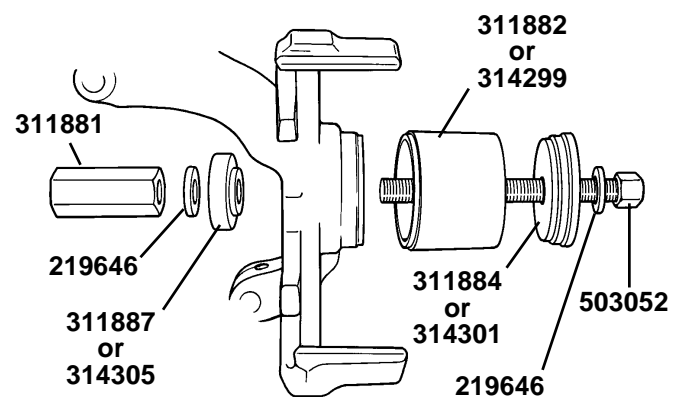

Figure 2
3. Lightly lubricate the new bearing, and position it for installation with the tool components assembled as shown in Figure 2. Press the bearing into the spindle assembly until it bottoms.
- The **1995-2001 Contour/Mystique** application uses bearing installer No. 311887. See Figure 2.
- The **1991-99 Escort/Tracer** application uses bearing installer No. 314305. See Figure 2.
- The **1993-99 Villager** application uses bearing installer No. 314299 and step adapter No. 314301. See Figure 2.